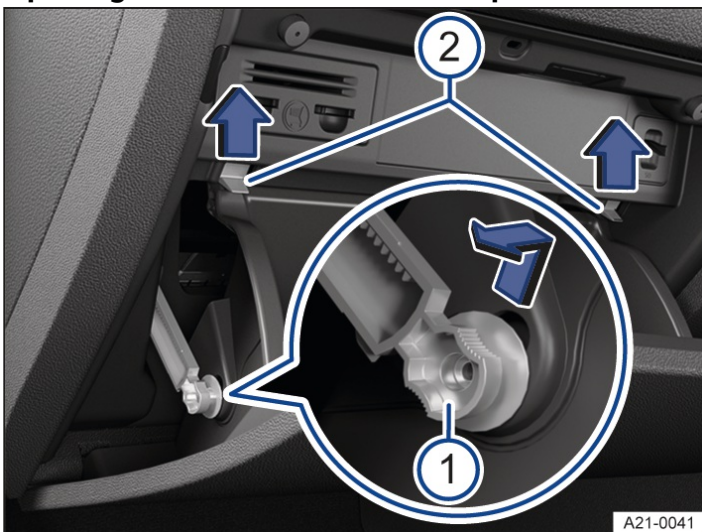

Fig. 2 In the dash panel on the front passenger side: fuse box cover in the dash panel (right-hand drive vehicle)
2. Push restrictor upwards into the opening of the holder and pull out to the side → Fig. 2 ①.
3. Push catches upwards in the direction of the arrow at the same time open the stowage compartment further → Fig. 2
3. Carefully push the stowage compartment forwards beyond the resistance of the catches → Fig. 2 ②.